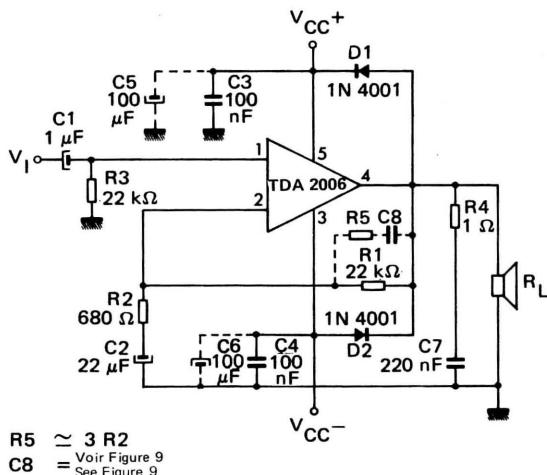

FIG. 15 : CIRCUIT IMPRIME ET COMPOSANTS DU CIRCUIT DE LA FIG. 14 (VUE COTE COMPOSANTS)
P.C. BOARD AND COMPONENT LAYOUT FOR THE CIRCUIT OF FIG. 15